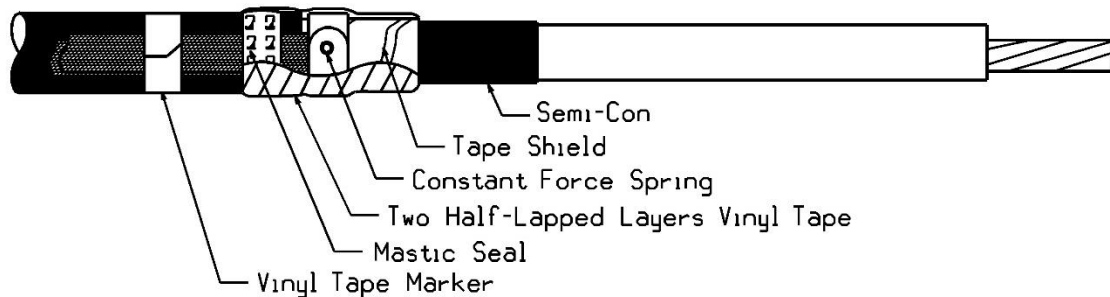

Figure 23
4. Wrap two half-lapped layers of vinyl tape around the mastic seal, constant force spring and exposed metallic shield. Do not allow the vinyl tape to lap onto the cable semi-con. **Note:** If vinyl tape was used to hold the copper tape in place in Step 2, remove it just prior to applying this tape. See Figure 23.